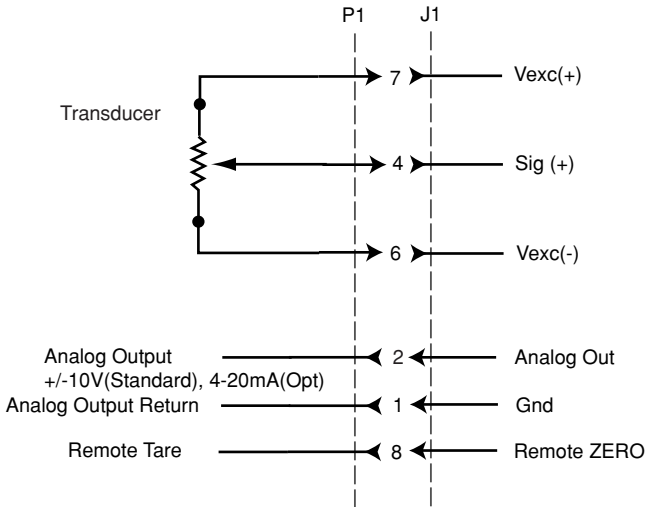
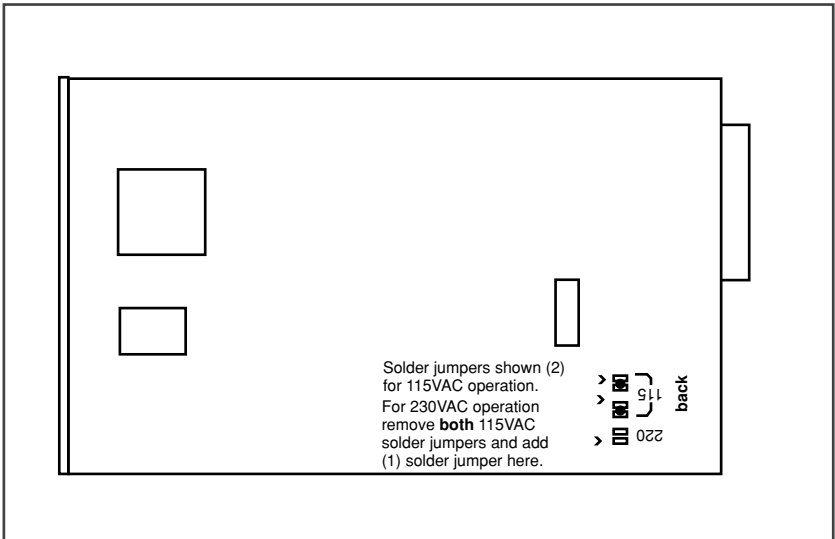

Figure 3. Transducer Wiring
Figure 6. Location of Jumper (Bottom View)
Reference Figures 3 and 4 for TRANSDUCER and RELAY/RS232 wiring information. Power is applied with a 3-prong AC power cord. The instrument is protected by a 250V, 250mA fast acting 5mm fuse. The fuse holder is an integral part of the input power connector. A spare fuse is provided in the fuse holder. Internal solder jumpers are provided to allow 115VAC or 230VAC operation (Reference Figure 6 on page 5).
Reference Figures 3 and 4 for proper input and output signal wiring.
1. Connect the potentiometric transducer to the instrument using Figure 3 as a reference.